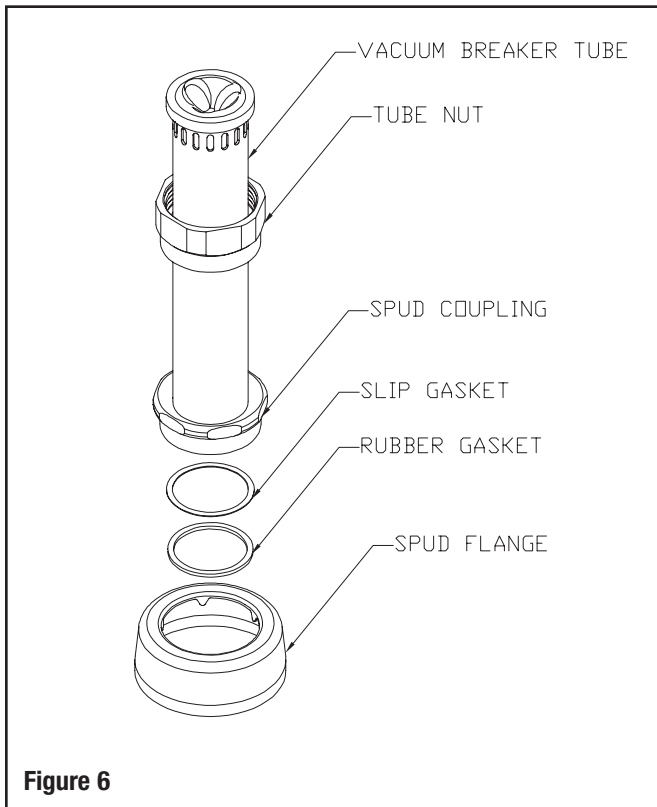

Figure 6
STEP 6 – Vacuum Breaker Flush Connection (Figure 6)